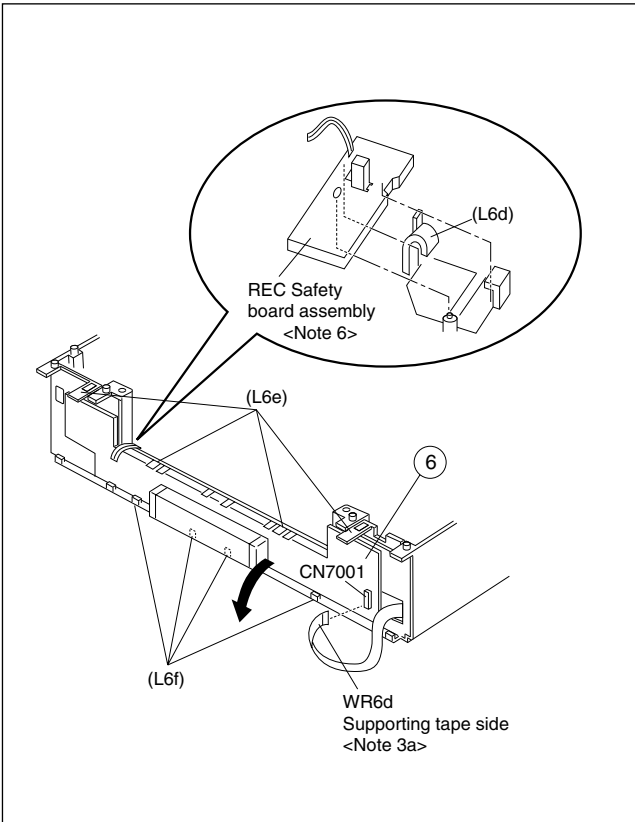

Fig. D6-2
- (9) Remove the SW/Display board assembly and REC safety board assembly. (Refer to page 1-4 of 1.3 DISASSEMBLY/ASSEMBLY METHOD. Take care not to pull the flat wire (Fig. D6-2) from CN7001.)